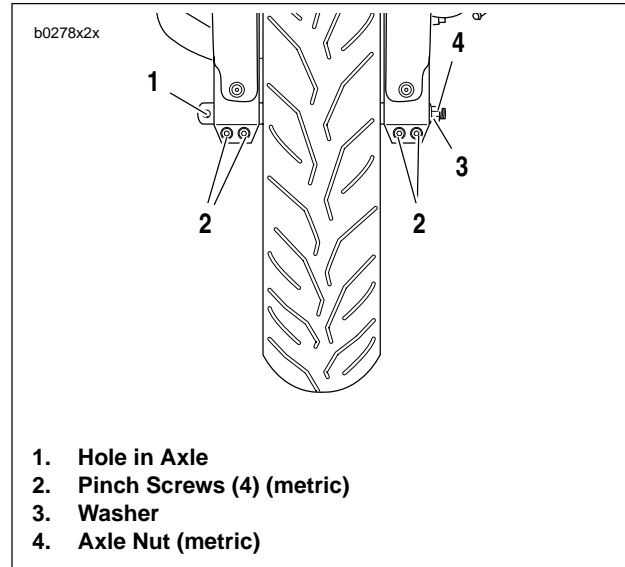
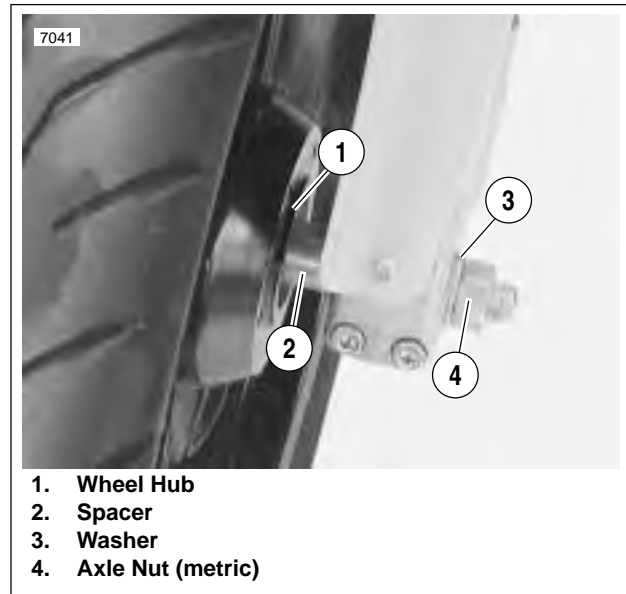

Figure 2-5. Front Wheel Mounting
Figure 2-7. Spacer
3. See Figure 2-5. Insert screwdriver/rod through hole in axle (1). Loosen front axle nut (4) (metric).
4. Loosen all four pinch screws (2) (metric).
5. Remove front axle nut (4) and washer (3). Pull front axle out of wheel hub while supporting front wheel.
3. See Figure 2-5. Remove five T-40 TORX screws (12) to detach front brake rotor (13) from wheel hub. Discard T-40 TORX screws.
- e. See Figure 2-7. Align spacer (2) between wheel hub and fork. Push axle through spacer and left fork leg.
3. Install axle nut (4).
- b. Install washer (3) and axle nut (4) (metric) over threaded end of axle.
- c. See Figure 2-5. Insert screwdriver or steel rod through hole (1) in axle.
- d. While holding axle stationary, tighten axle nut (4) (metric) to 48-53 ft-lbs (65-72 Nm).
4. Tighten the four front axle pinch screws (2) (metric) to 13-15 ft-lbs (18-20 Nm).